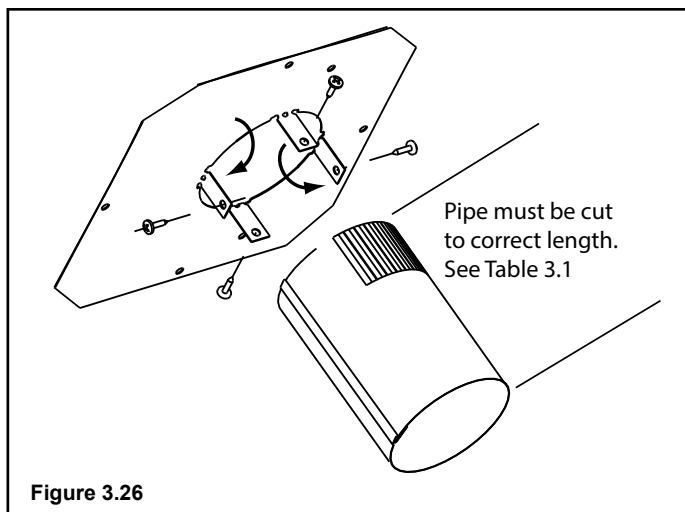

Figure 3.26
- On the mounting plate, hand bend the tabs downward. Slide the tabs over the outside of the starter pipe. Secure with four sheet metal screws included in fasteners package. Figure 3.26.
- Attach enough 6 in. (152 mm) B-Vent as required for your installation to the fan housing. **A maximum of (4) 90° elbows are allowed.** Screw the B-vent to the adapter. Also screw the B-vent to the outlet box on the fan housing. See Figure 3.26. Support duct at intervals of no greater than 4 ft (1 m) as required by local code.